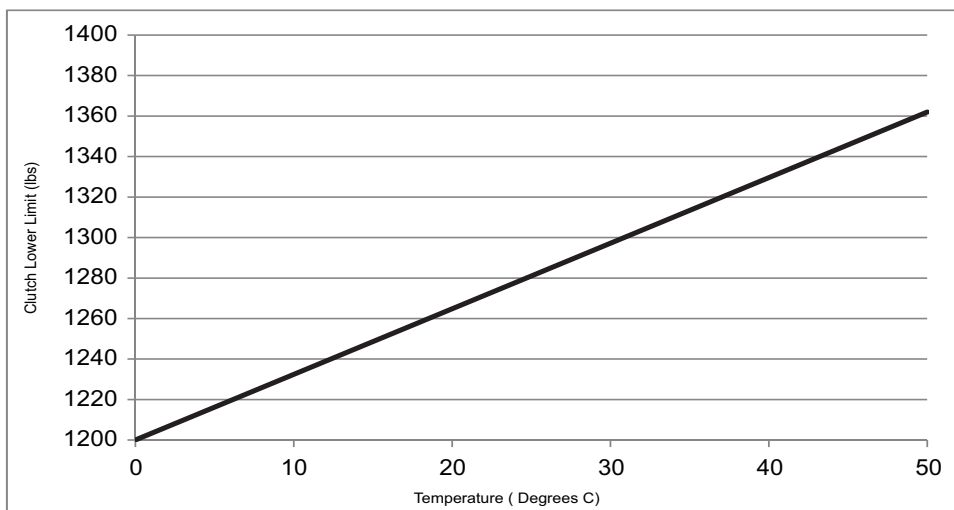

Figure 1. Lower limit for the 600 lb capacity hoists
- a. If the test results indicate a value above the acceptable lower limits per Table 2 Figure 1 of Goodrich Alert Service Bulletin 44301-10-18 Revision 6, proceed with step 3.
- b. If the test results indicate a value below the acceptable lower limit per Table 2 Figure 1 of Goodrich Alert Service Bulletin 44301-10-18 Revision 6, remove the hoist from service before the next hoist operation.
42315	Table 2/Figure 1
42325	Table 2/Figure 1
44301-10-4, -7, -9, -12, -13	Table 2/Figure 1
44311	Table 2/Figure 1
44312	Table 2/Figure 1
44314	Table 2/Figure 1
44315	Table 2/Figure 1
44316	Table 2/Figure 1
44318	Table 2/Figure 1